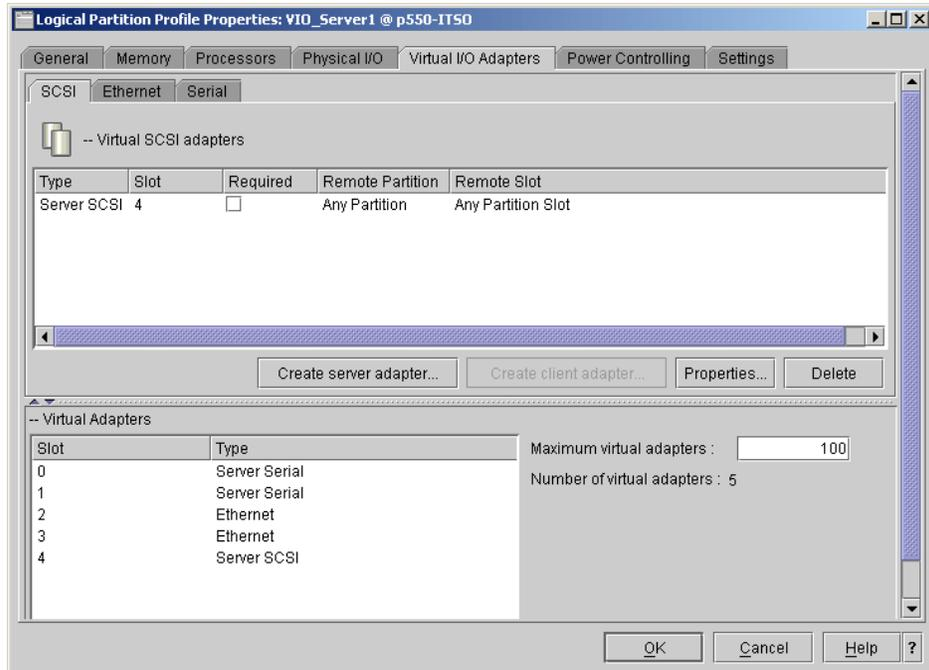

Figure 3-16 Add a virtual SCSI adapter
5. Add a virtual SCSI adapter to virtualize the DVD-ROM drive. Note the setting **Any partition can connect**. See Figure 3-16.